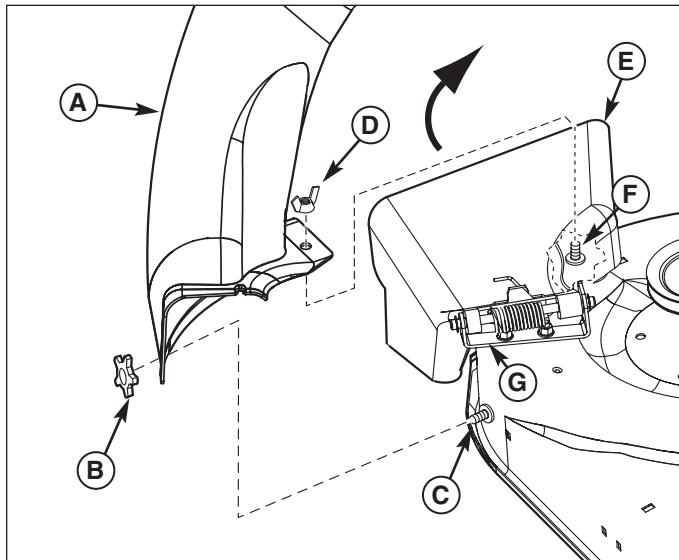
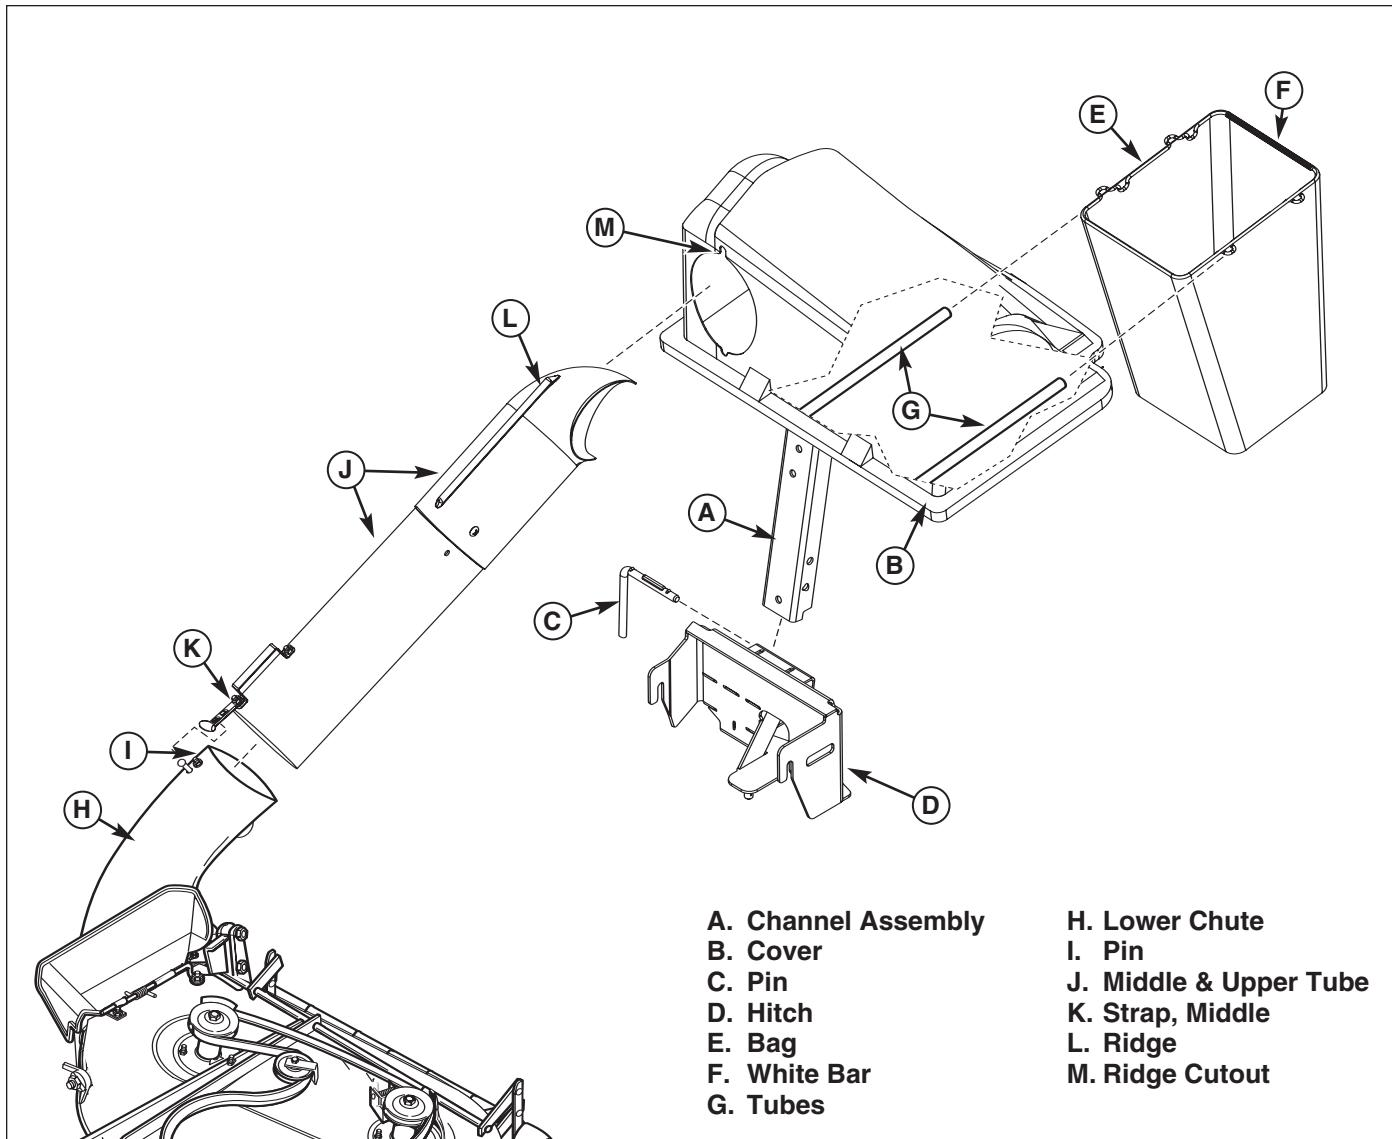

Figure 16. Install Lower Discharge Chute
Figure 17. Normal Installation & Removal
1. Lift discharge deflector up (E, Figure 16).
2. Place the front hole of the lower chute (A) onto carriage bolt (C) as shown. Slide front edge of lower chute (A) under hinge bracket (G).
3. Place the rear hole of the lower chute (A) onto carriage bolt (F) as shown.
4. Secure knob (B) onto carriage bolt (C) as shown.
5. Secure wing nut (D) onto carriage bolt (F) as shown.
6. Mount the channel assembly (A, Figure 17) into hitch (D). Secure by inserting pin (C) into the right side of hitch (D) and turning pin (C) counterclockwise to lock in place.
7. Pivot cover (B) up. Install bags (E) with white bar (F) towards the rear.
8. Slide the upper and middle tube (J) aligning ridge (L) with cutout (M) as shown.
9. Slide middle and upper tube (J) over lower chute (H). Pull strap (K) and place hole completely over pin (I).
1. Unhook strap (K, Figure 17) from pin (I). Remove middle and upper tube (J) from cover (B).
2. Lift up cover (B) remove and empty bags (E).
3. Remove pin (C). Lift and remove channel assembly (A) and cover (B) from hitch (D).
4. Lift discharge deflector up (E, Figure 16).
5. Remove wing nut (D) from carriage bolt (F).
6. Remove the knob (B) from carriage bolt (C).
7. Remove the lower chute (A) from carriage bolt (F).
8. Remove lower chute (A) from carriage bolt (C).